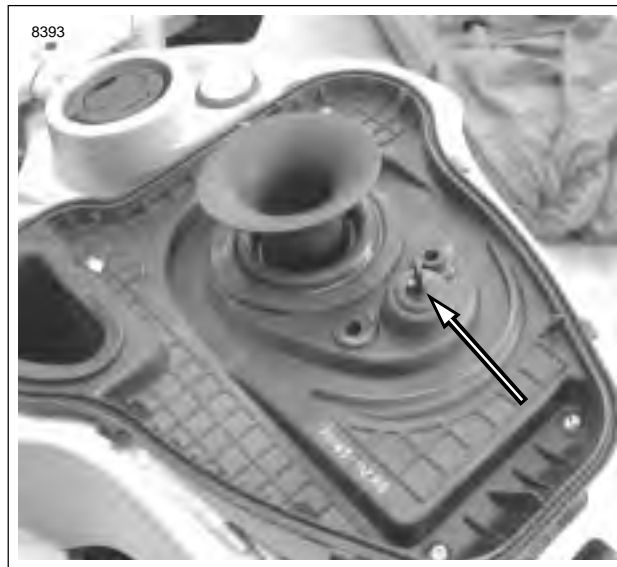

Figure 4-79. Intake Air Temperature Sensor Installed
See Figure 4-79. The intake air temperature sensor (IAT Sensor), located on the airbox baseplate, measures the air temperature allowing the ECM to calculate the density of the air entering the manifold. The IAT is a thermistor type sensor.
2. See Figure 4-79. Remove airbox cover, filter. Remove fasteners securing base. See 4.43 AIRBOX.